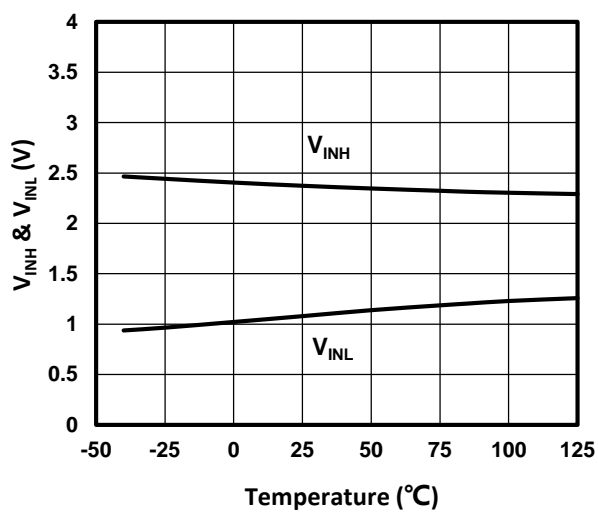

Figure 5. V_{INH} & V_{INL} vs Temperature
(3) This parameter is intended to describe the logic level conditions, not the actual threshold voltage of the product. The actual threshold voltage can refer to Figure 5. It can be seen from the figure that the product also contains hysteresis with a typical value of 1.3V, which will effectively prevent output jitter when the input ripple is large.
(4) Parameter verified by design, not tested in production.